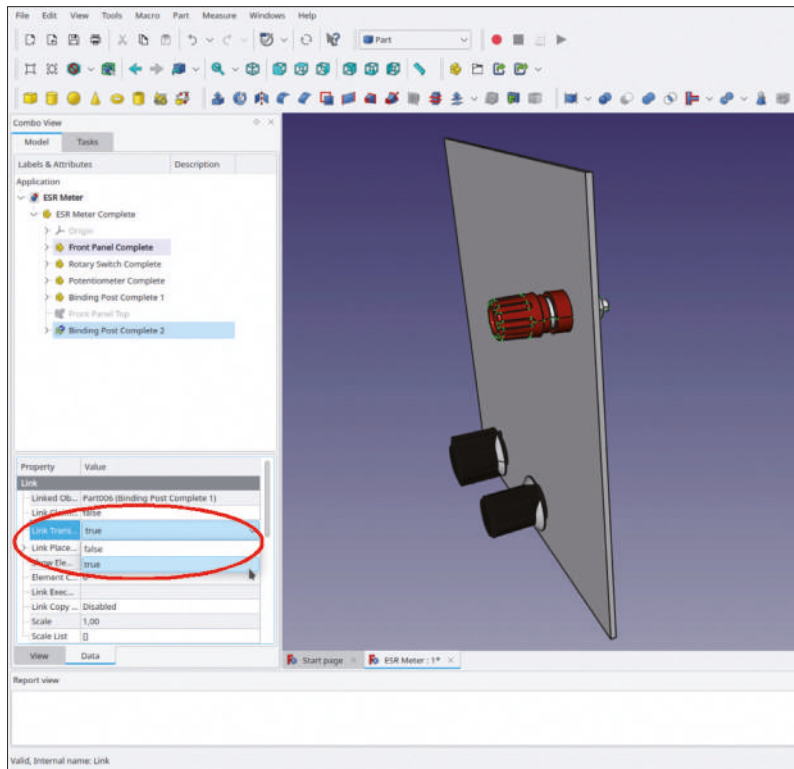

Figure 7-33
17. In the tree view, mark 'Binding Post Complete 2'. In the property list, set the property 'Link Transform' to 'true' (Figure 7-33). With this choice, the 'Link Placement' parameters are defined relative to 'Binding Post Complete 1'.